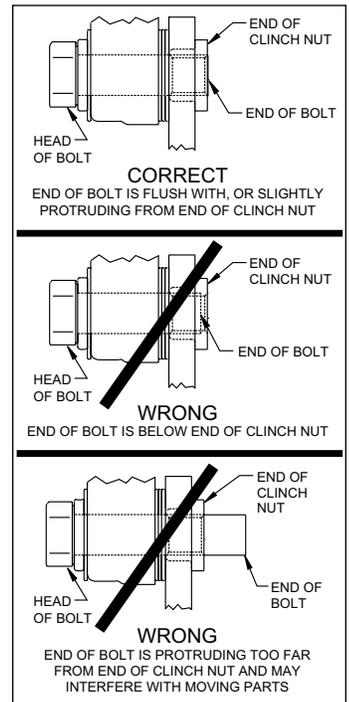

Figure 4. Clinch Nut Engagement Diagram
**CAUTION:** All mounting bolts must fully engage clinch nuts. Be sure to check that all bolts are either flush or protruding through flanged side of clinch nut after shimming, Figure 4. Rear hole refers to the part of the spindle that would be facing the back of the vehicle, front is facing the front of the vehicle.
- Adjust by adding or subtracting shims (2) between the bracket and the spindle. Always use the same amount of shims on each of the two mounting bolts.
- NOTE:** The end of each bolt must be flush with or slightly protruding from the head of the clinch nut, as shown in Figure 4. If necessary place spare shims (2) between washer (19) and caliper mounting ear to achieve the proper clinch nut engagement. Once the caliper alignment and clinch nut engagement is correct, remove the ProSpindle and steering arm bolts one at a time, apply red *Loctite*® 271 to the threads, and torque to 55 ft-lb. Remove the caliper mount bolts one at a time, apply red *Loctite*® 271 to the threads, and torque to 40 ft-lb.
- Install the disc brake pads (21) into the caliper (18), with the friction material facing the rotor (8), and secure in place using the pad clip retainer (22), Photo 10.